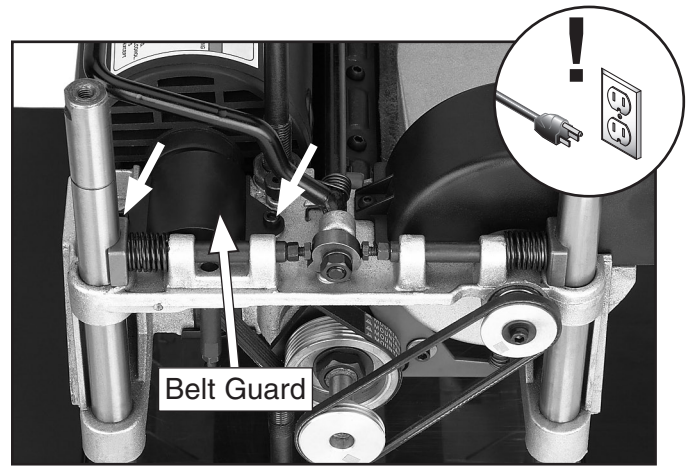

Figure 36. Belt guard.
4. Remove the belt guard shown in **Figure 36** by removing the cap screws that secure it.